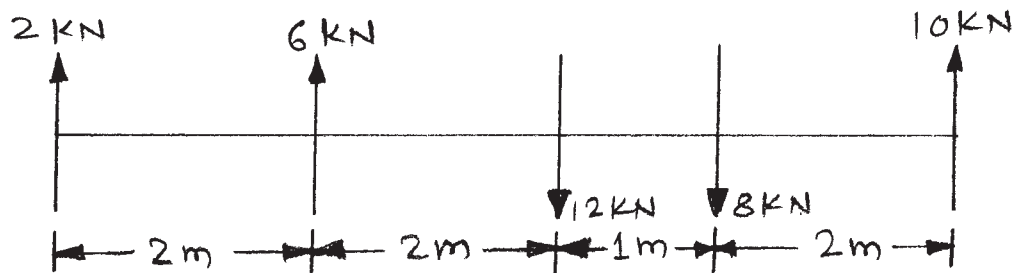

Fig. No. 7
- c) Calculate the resultant in magnitude direction and position with respect to point A for the force system shown in Fig. No. 7.